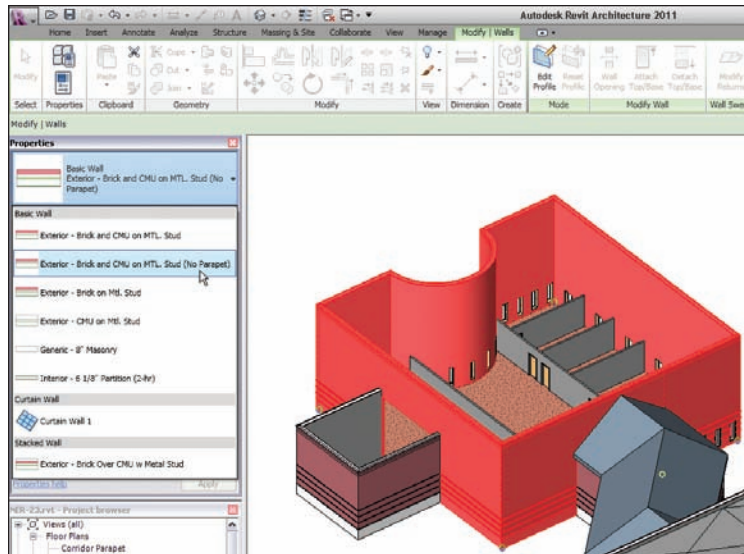

FIGURE 7.38 Changing the walls to Exterior - Brick And CMU On MTL. Stud (No Parapet)
2. Select the west wing exterior walls, as shown in Figure 7.38.
3. On the Properties panel select Exterior - Brick And CMU On MTL. Stud (No Parapet), as shown in Figure 7.38.